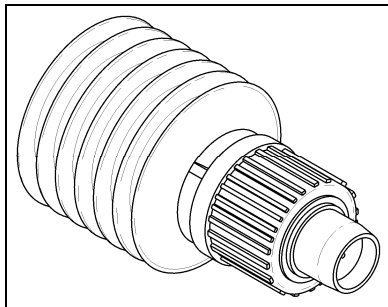

Figure 001-20: Pressure Pump
2. Compress the pressure pump, Figure 001-20, and fill it with water.
2. Compress the pressure pump (see Figure 001-20) and fill it with water.